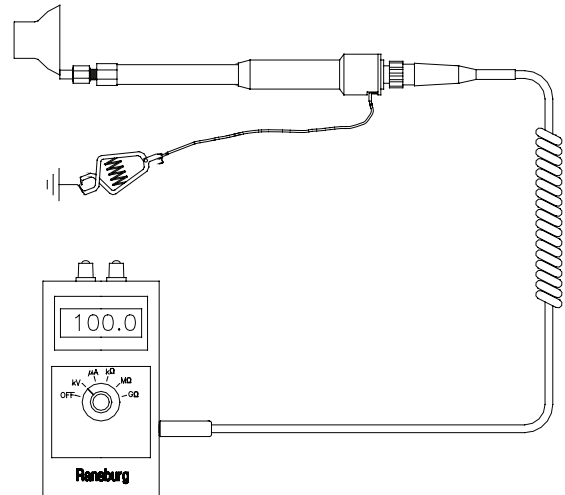

Figure 8: Measuring High Voltage On Bells or Disks
8. Make and maintain sure contact between the test probe and the applicator (see Figure 8).
► Ensure that the applicator is **NOT** rotating when contacting it with the probe. Also, to get proper readings on resistive applicators, the probe must be placed in contact with the atomizing edge of the bell or disk as shown in Figure 8. As this edge is sensitive to mechanical damage, use care when contacting it with the probe. Rough handling may cause damage to the applicator.